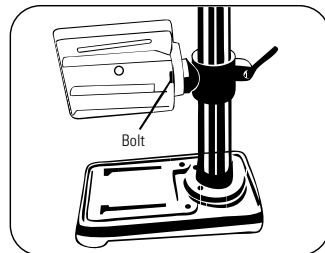

FIGURE 7.10
- Loosen the bolt on the table **6** (Figure 7.10).
- Tighten the bolt (Figure 7.10).
3. Move the table to the desired height using the crank For angle drilling, adjust the table to the desired angle using the bolt, use a protractor as reference (Figure 7.10).